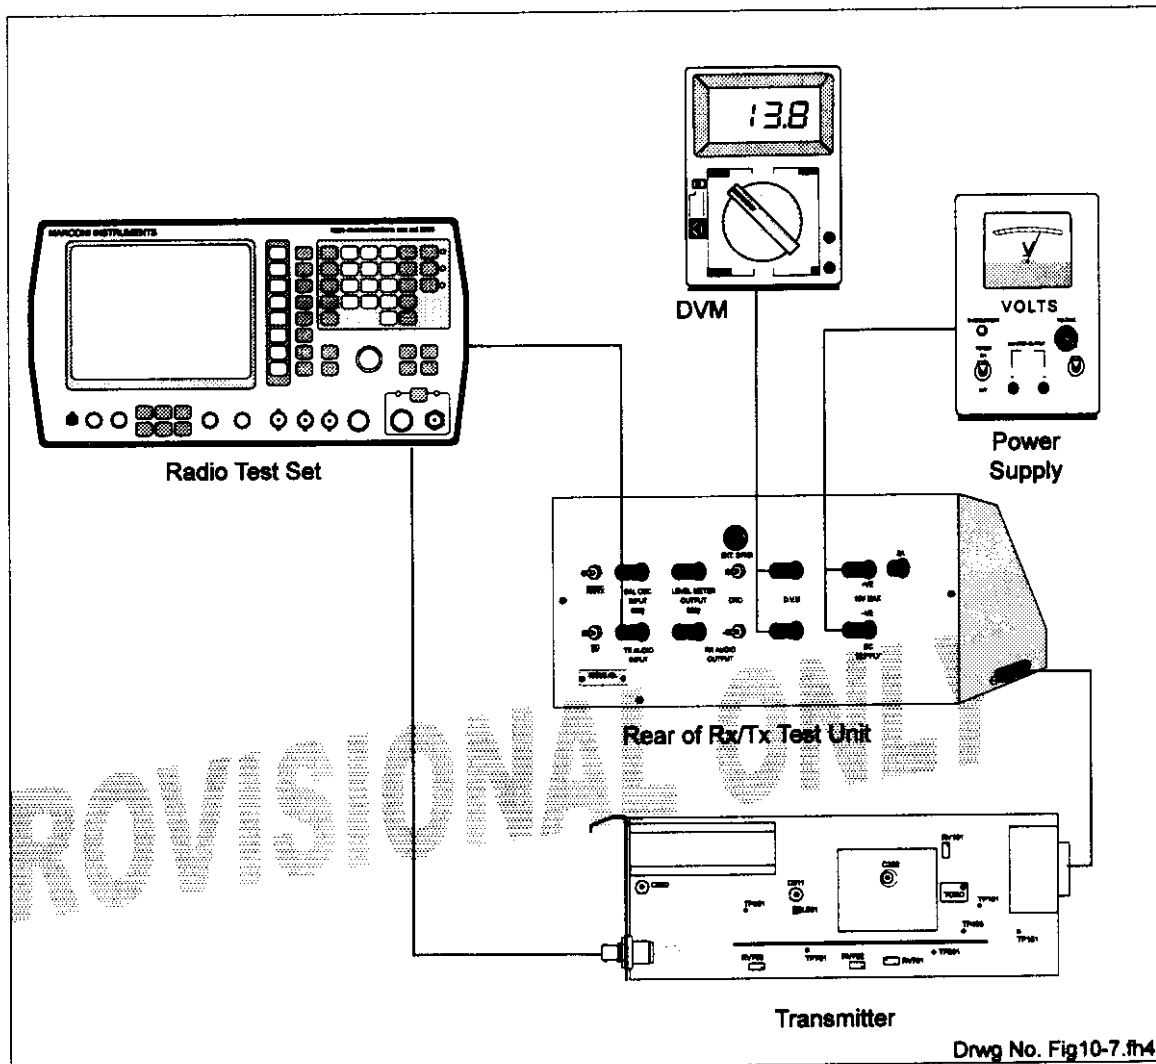

Figure 10.7: Modulation Deviation Set-up
1. Connect the transmitter PCB to the test equipment as shown in Figure 10.7.